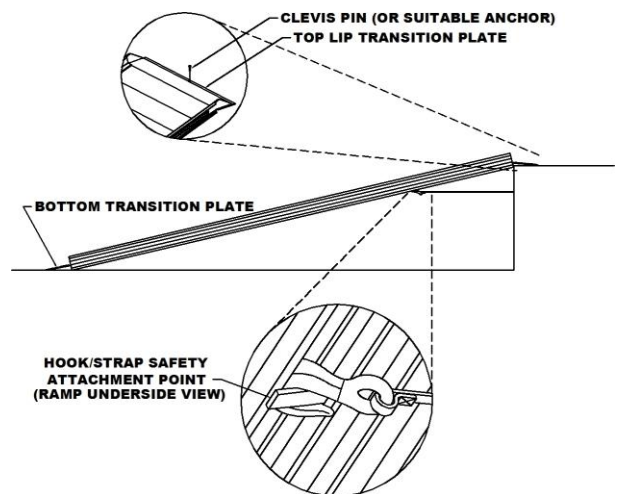

FIG. 2
5. Ramp is equipped with a safety attachment point underneath the upper portion of ramp as a method of securing ramp when in use (FIG. 2). Use a strap, chain, or rope (not supplied) to securely attach the ramp to a vehicle or other structure when in use to prevent the top lip transition plate from slipping off support surface.
6. In addition to the safety attachment point, secure top lip transition plate of ramp to supporting surface with clevis pins (or other appropriate fasteners) to prevent top lip transition plate from slipping when in use (FIG. 2).